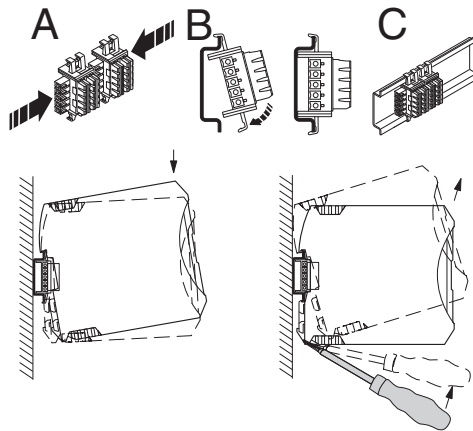

Figure 4 Assembly and Removal
- When using the DIN rail connector, first place it into the DIN rail (see A – C, Figure 4). It is used to bridge the power supply and for error messages.